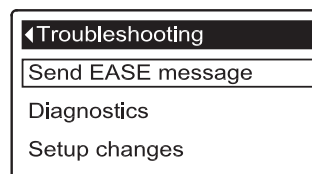
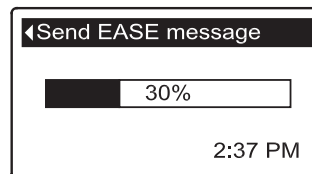

FIG. 86
FIG. 87
5. Press the SELECT (O) button to display the Troubleshooting menu (See Figure 86).
9. A bar is displayed showing the transmission's progress (See Figure 87). Once completed, the Troubleshooting screen immediately reappears (Figure 86).